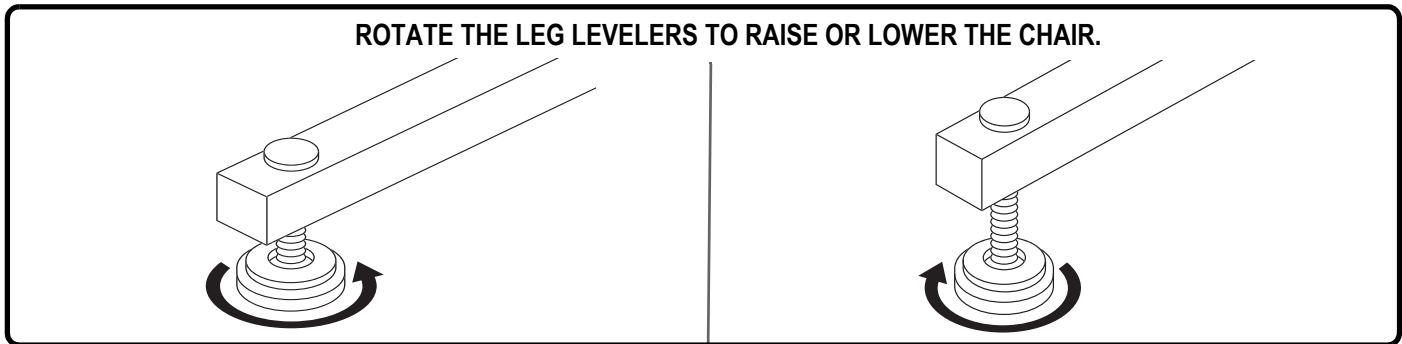

Figure 3.2 Leg Levelers
**Leg Levelers:** Manually rotate up or down in order to stabilise the chair before use (Fig. 3.2).
2. Adjust the leg levelers to stabilise the lift chair (**Fig. 3.2**).